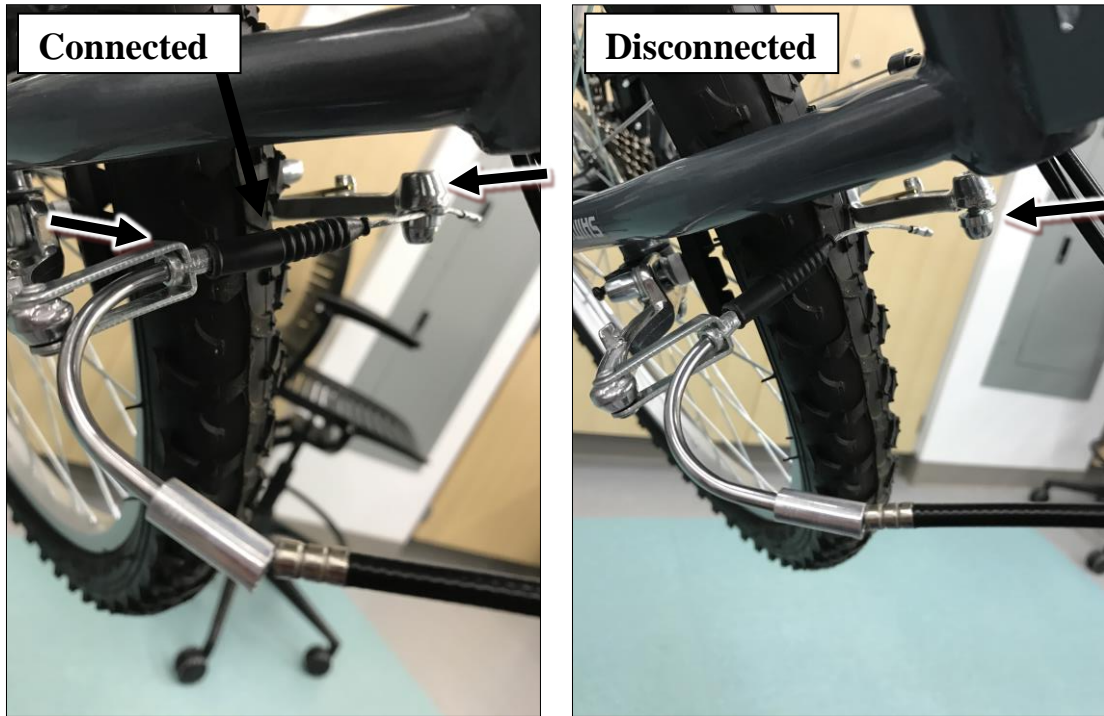

Figure 1: (Left) Connected brake system; (Right) Disconnected brake system
5. Begin disconnecting the brakes so that you can take the wheels out. You do not need to disassemble all components of the brake to disconnect it. Please refer to **Figure 1**.